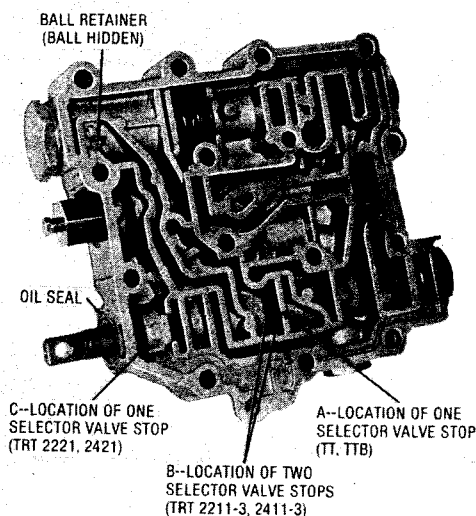

Fig. 6-1. Control valve body assembly--mounting side
Before removing stop(s) 12, take note of the location of the stop(s). This will assist reassembly. Refer to figure 6-1.
(1) If the retainer plug and ball were removed from the control valve body, install a new ball and retainer (fig. 6-1). Place the retainer plug, open end upward, over the ball. Press the retainer plug to a depth of 0.000-0.010 inch (0.25 mm) below the surface of the three supporting bosses.
(2) Install one spring 33 (foldout 18,B) and detent ball 30 into control valve body 9. Depress the ball against the spring, and install selector valve 29 or 52, linkage end last, through the seal bore of the control valve body.
(3) Install the remaining detent ball 30 and spring 33; install gasket 32 and plug 31 to retain the ball and spring. Tighten the plug to 60-70 lb ft (82-94 N·m).
(4) Position the selector valve in the middle detent position (neutral). Refer to figure 6-1 and install the selector valve stop(s) as follows:
manufacturer's identification numbers outward, over the linkage end of the selector valve into its bore (fig. 6-1). Press the seal into the bore to a location ± 0.010 inch (0.25 mm) from the bottom of the chamfer.